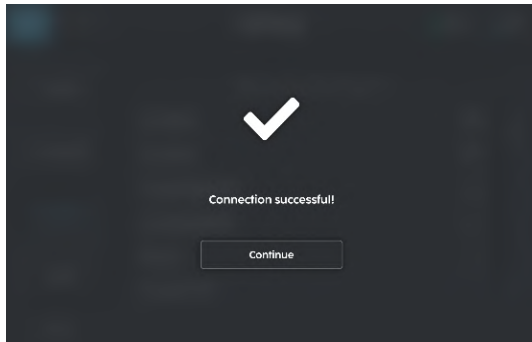

FIGURE 7-6
3. If the connection is successful (**Fig. 7-6**), network configuration is successful.